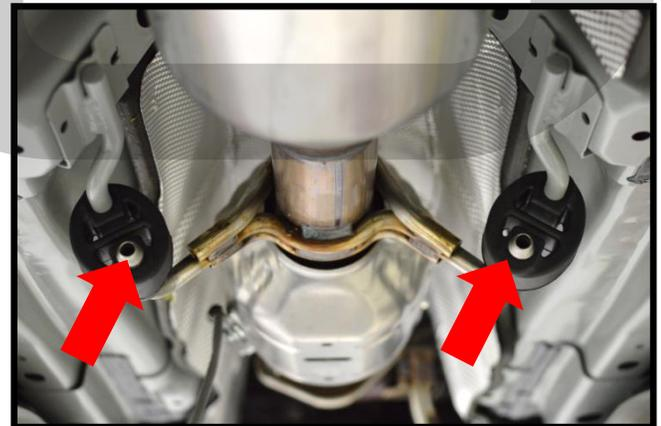

Figure 3d
- g) Lubricate the two (2) rubber hangers with WD-40 and pull the exhaust free from the vehicle (Red arrows in Figure 3d).